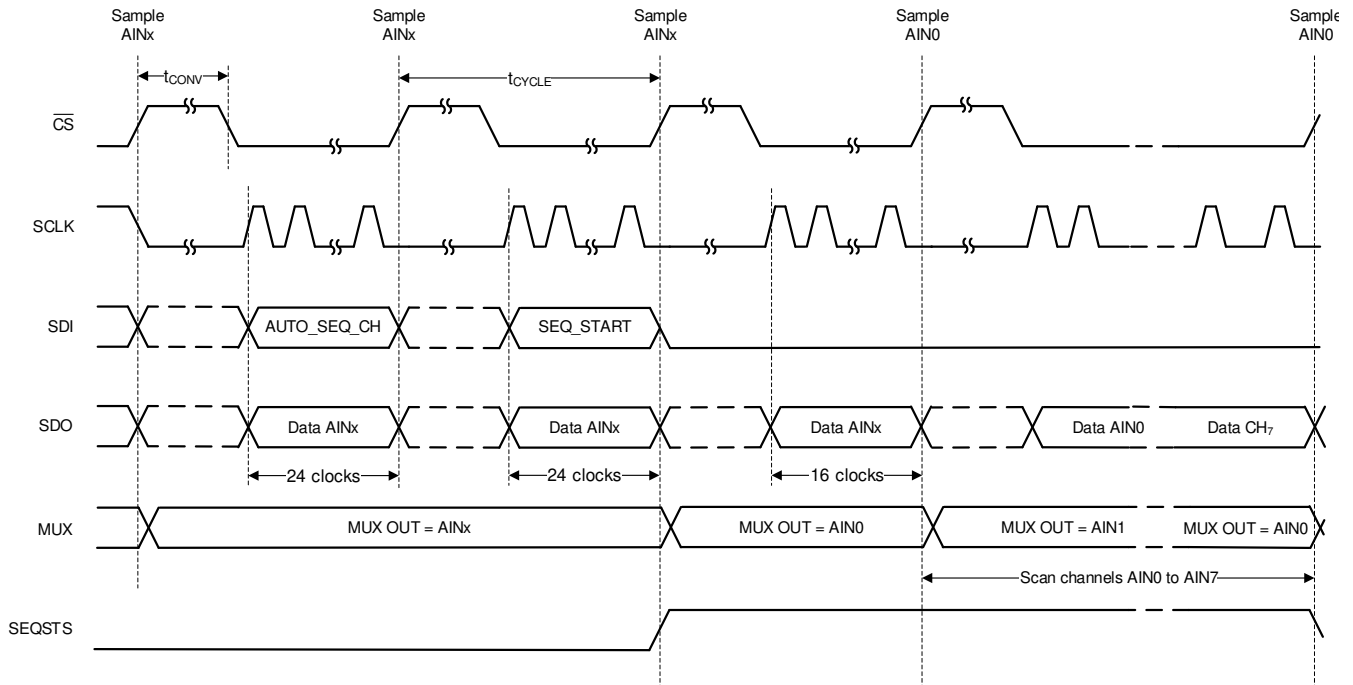
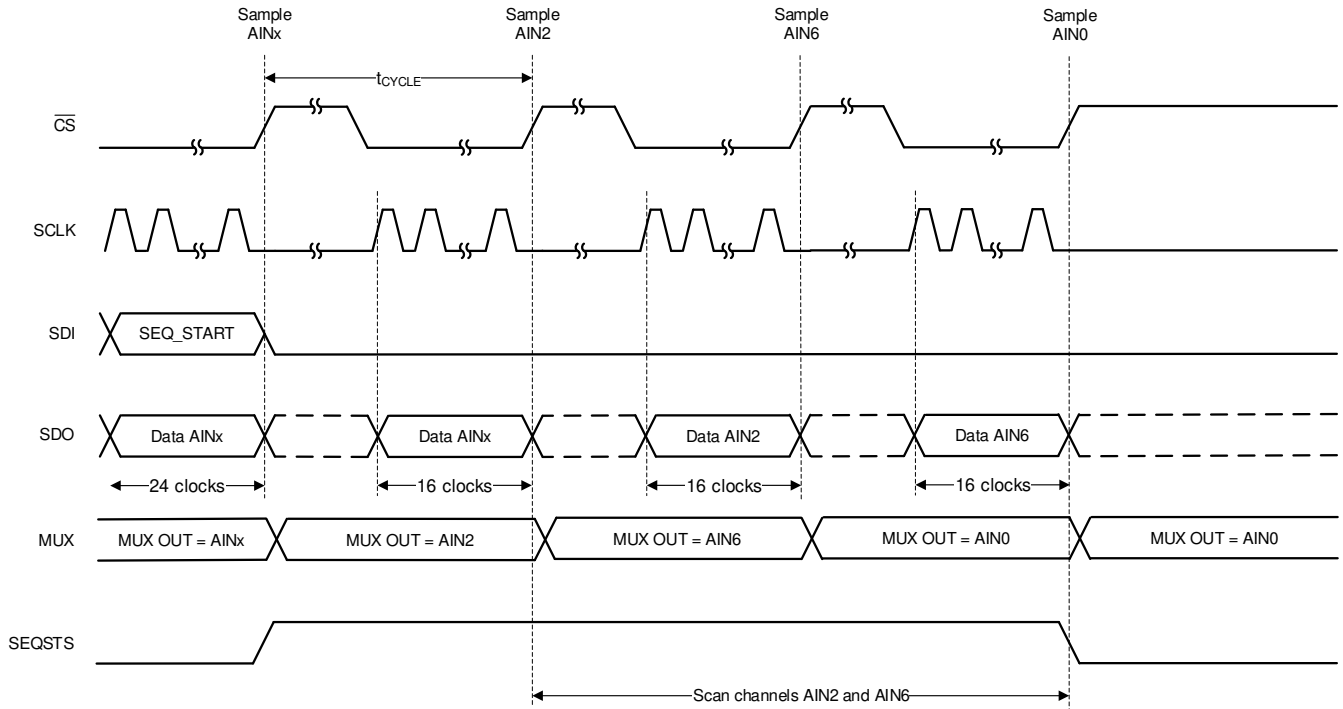

Figure 6-14. Starting a Sequence in Auto Sequence Mode
Figure 6-15. Example: Scanning Channels 2 and 6 in Auto Sequence Mode
In auto sequence mode, the internal channel sequencer selectively scans channels from AIN0 through AIN7 in ascending order. To select auto sequence mode, configure SEQ_MODE to 10b in the DEVICE_CFG register using a 3-byte register access. Enable one or more channels among AIN[7:0] by configuring the AUTO_SEQ_CFG1 register. By default all analog input channels are enabled. After enabling the desired channels, start the sequence by setting SEQ_START to 1b. The ADC auto-increments through the enabled channels after every \overline{CS} rising edge. Configure SEQSTS_CFG bit to 1b in SDO_CNTL4 register to indicate sequence status on SDO-1/SEQSTS pin. When SEQ_START is set to 1b, the SDO-1/SEQSTS pin is at logic 1 as shown in Figure 6-14 until the last channel conversion frame is complete. After the last enabled channel conversion is complete, channel AIN0 is selected and SDO-1/SEQSTS is in a high-impedance state.
As an example, Figure 6-15 depicts a timing diagram for when the device is scanning AIN2 and AIN6 in auto sequence mode. When AIN6 is converted, SDO-1/SEQSTS is Hi-Z and AIN0 is selected as the active channel. At the end of sequence, if more conversion frames are launched the device returns valid data corresponding to AIN0.
- Configure the AUTO_SEQ_CFG1 register. In Figure 6-15, AUTO_SEQ_CFG1 = 0x44.
- Configure the `AUTO_SEQ_CFG1` register. In Figure 6-15, `AUTO_SEQ_CFG1 = 0x44`.
After configuring the channel scanning order, start index, and stop index, initiate the scanning by setting the SEQ_START bit to 1b. The ADC scans through the enabled channels after every \overline{CS} rising edge as defined by the channel scanning order. When SEQ_START is set to 1b, the SDO-1/SEQSTS pin is pulled high until the last channel conversion frame is complete, as described in Figure 6-14. As illustrated in Figure 6-15, channel AIN0 is selected and SEQSTS/SDO-1 goes to Hi-Z after the last enabled channel conversion is complete.
As an example, Figure 6-15 provides a timing diagram for when the channel configuration is set as in Table 6-5. When AIN6 is converted, SEQSTS/SDO-1 goes to Hi-Z and AIN0 is selected as the active channel. If more conversion frames are launched at the end of the sequence, the device returns valid data corresponding to AIN0.
- Configure the CCS_START_INDEX and the CCS_END_INDEX registers. In Figure 6-15, CCS_START_INDEX = 0 and CCS_STOP_INDEX = 1.
- Configure the CCS_SEQ_LOOP register to 1 to indefinitely loop the sequence. In Figure 6-15, the CCS_SEQ_LOOP register = 0b.